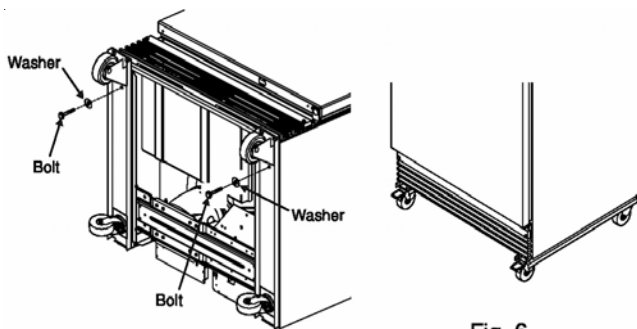

Fig. 6
- Repeat the same procedure on the left hand side with the other swivel caster and caster rail assembly. Fig. 6
- Align bolt with the hole in the front foot of the right hand base rail. Thread bolt into the hole and tighten securely using a ½ inch end wrench or socket wrench (see Fig. 6).